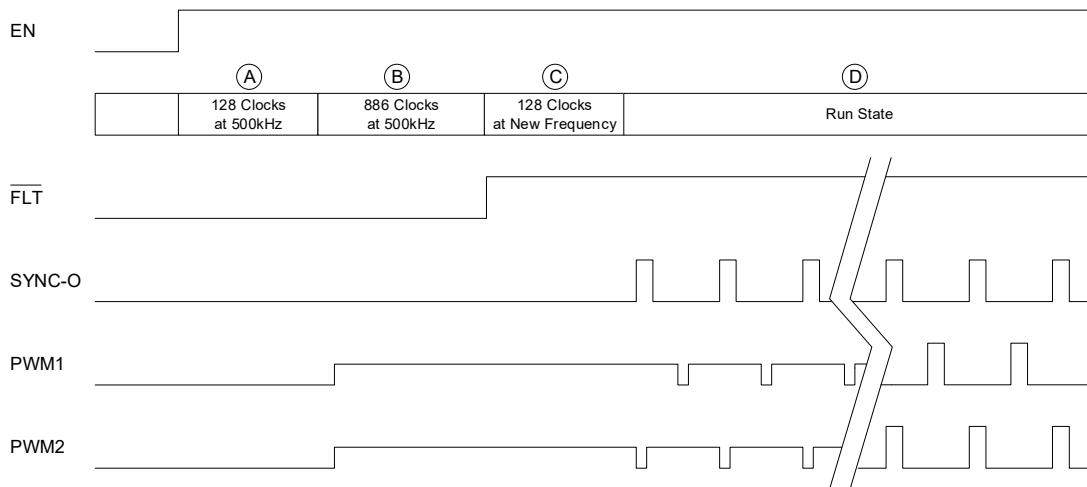
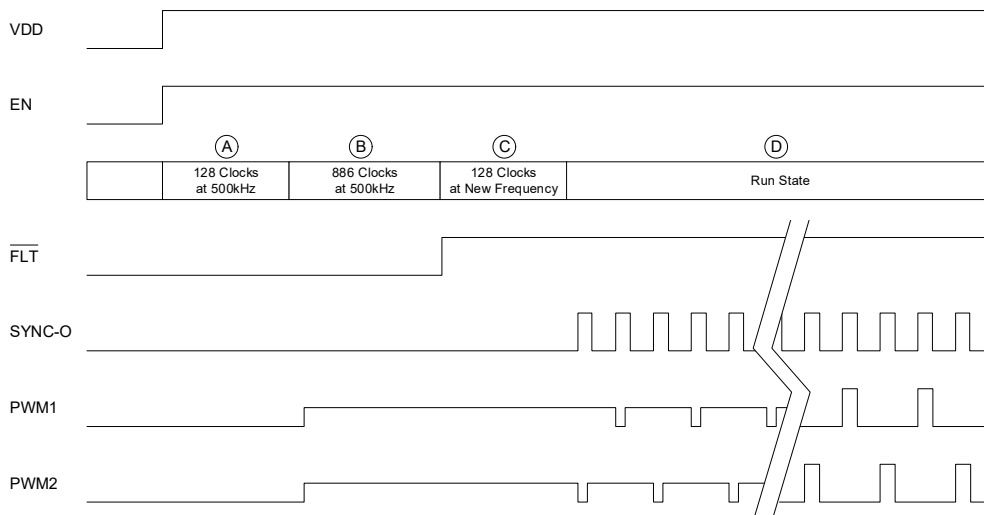

Figure 50. Start-Up Timing Diagram ( $R_{SYNC-O} = OPEN$ )
Figure 51. Start-Up Timing Diagram ( $R_{SYNC-O} = 100k\Omega$ )
When the ISL73847SEH first powers up, it goes through several states before boot refresh and soft-start. After VDD has crossed the rising UVLO threshold, the oscillator waits for 128 clock cycles at 500kHz before allowing the digital core to enter its configuration state. The configuration state lasts 886 clock cycles at 500 kHz. When the digital core completes its configuration, it signals the oscillator to switch to the frequency set by the FS pin or SYNC-I. After an additional 128 clock cycles at the new frequency, boot refresh pulses commence, followed by soft-start. Figure 50 and Figure 51 illustrate the start-up sequence.
During states A and C in Figure 50 and Figure 51, the oscillator blanks the clock signal to the digital core. Therefore, the oscillator has time to stabilize its frequency before entering the configuration state (B) or run state (D).